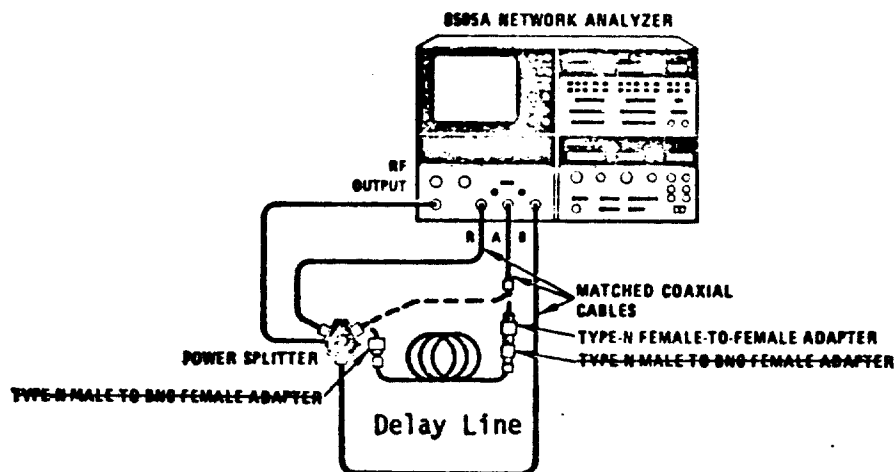

Figure A4-18. Test Setup to Measure Group Delay of Test Cable
(1) Connect the "Test Cable" in A channel between the matched cable and the power splitter as shown in Figure A4-18.
(2) Set 8505A controls as follows:
- a. Connect equipment as shown in Figure A4-18 with both matched cables connected to power splitter and ~~Test cable~~ with adapters not connected in circuit.